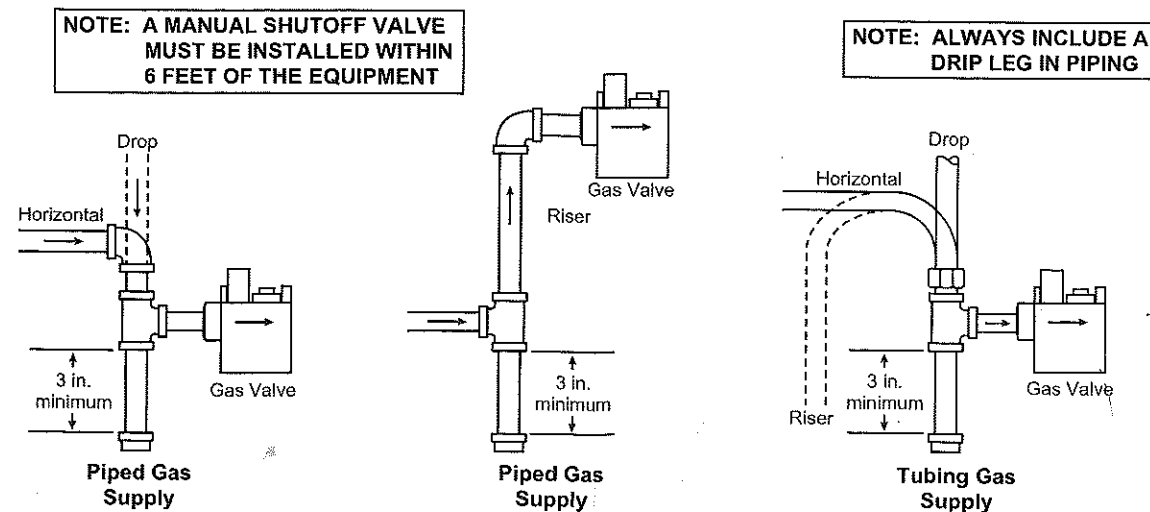

Figure 2. Typical gas valve piping
5. Apply pipe joint compound (pipe dope) that is approved for all gases, only to the male threads of the pipe joints. **DO NOT** apply compound to the first two threads (see fig. 2 for typical piping connections).